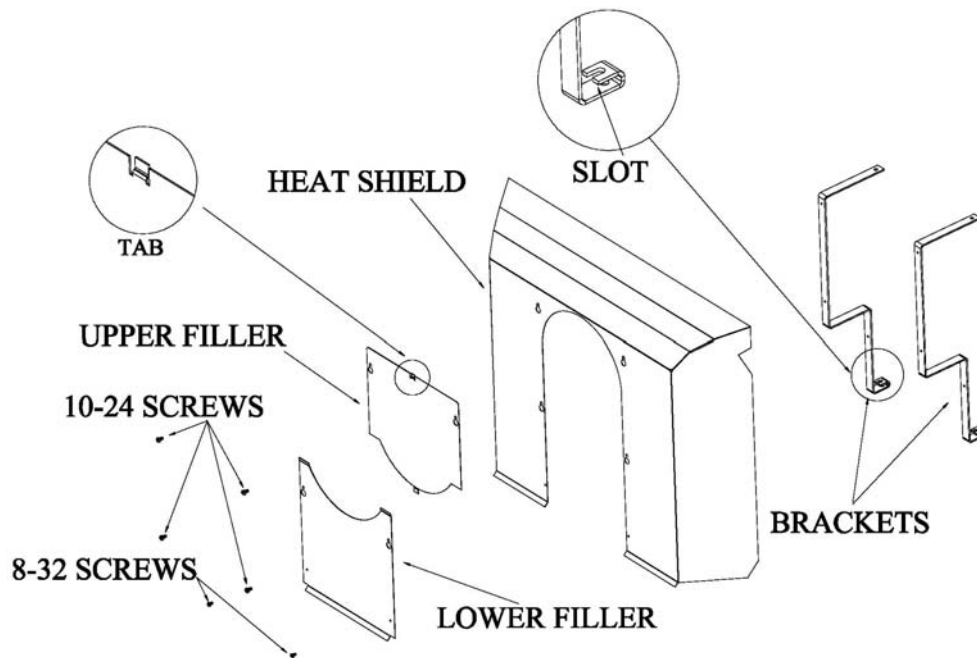

FIGURE 1 – Heat Shield Kit Components
- 3) If the rear heat shield filler plates (see Figure 1) are not attached to the rear heat shield, do so now. Align the keyholes in the upper filler plate with the upper keyholes on the heat shield and slip the top tab under the rounded top edge of the heat shield opening. Align the keyholes in the lower filler plate with the lower keyholes in the heat shield, and at the same time slip the lower tab from the upper filler plate over the lower filler and install the two 8-32 screws into the lower two holes on the lower filler plate to secure both filler plates to the heat shield (do not lift by the filler plates).